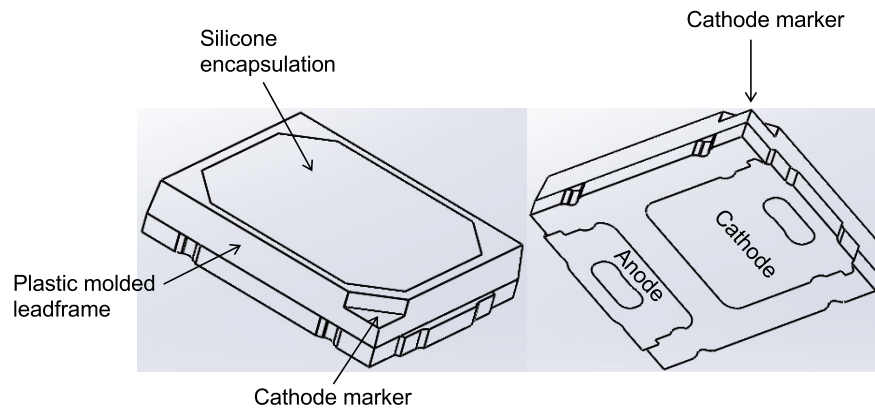

Figure 1. Package rendering of the LUXEON 2835 Line.
The LUXEON 2835 Line emitter (see Figure 1) is a plastic molded, no-lead, surface mount package consisting of an anode and a cathode. A chamfer on the corner of the package marks the cathode side of the emitter package. Majority of the heat is being dissipated through the larger pad (cathode). For the LUXEON 2835 package, without the option of a transient voltage suppressor (TVS) chip to protect the emitter against electrostatic discharges (ESD), appropriate precautions should, therefore, be taken when handling such device (see Section 5.5).
2. The nozzle outer diameter or size should also not be smaller than the silicone encapsulant surface (Figure 1 and Figure 6) otherwise this may allow the nozzle tip to be in full contact with the encapsulant area and may cause damage to the surface or cause pick-up/release issues. Note that the encapsulant is typically recessed below the white plastic housing and assuming a nozzle tip that is planar, the nozzle tip is able to rest on the edge of the white plastic housing and not in full contact with the encapsulant.